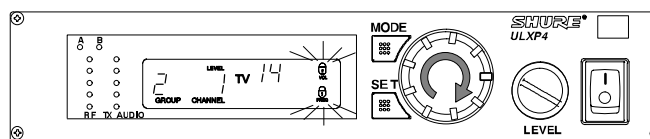

FIGURE 43
2. Rotate the control knob until one or both of the lock icons flashes on the display, as shown in Figure 43.